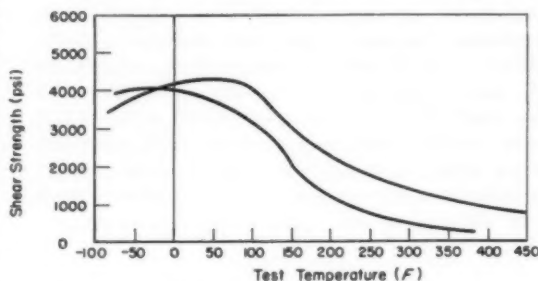

Fig. 1—Variation of shear strength with temperature of nitrile phenolic adhesive bonds between 2024-T3 Alclad aluminum sheets.
**Phenolic-Modified Elastomers:** High strength adhesives of the phenolic-modified-elastomer type have good adhesion to most metal and usually offer good flexibility, vibration absorption and peel strength. They have excellent resistance to fuels, lubricants, humidity and salt spray. This type adhesive is characterized by a rather flat, slowly descending curve, Fig. 1, when shear strength is plotted against service temperature. This type adhesive has a tendency to creep at elevated temperatures when subjected to dead loads that are in excess of about two-thirds of its shear strength. Room-temperature shear strengths are in the range of 3000 to 4200 psi in aluminum-to-aluminum joints.